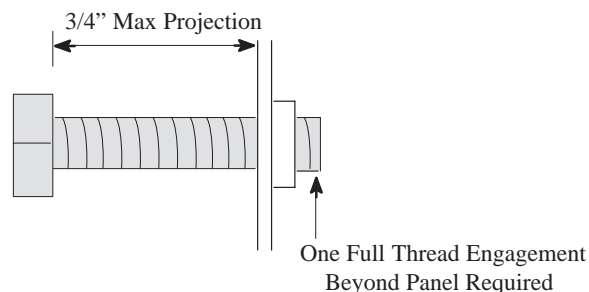

Figure 2.
1. Check the hole pattern on the panel to which the drive will be mounted. Refer to Figures 2 thru 5 for the correct pattern.